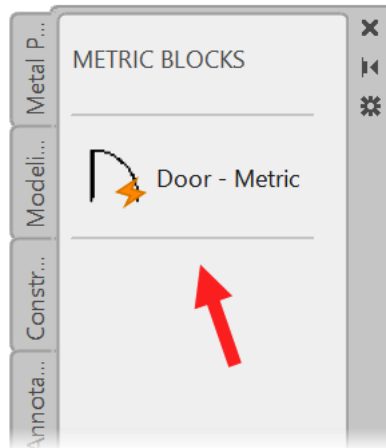

Figure 9.32: The new tool palette with text and separators added
12. Using the text and separator tools, you can specify areas on the tool palette for block types, as shown in *Figure 9.32*.